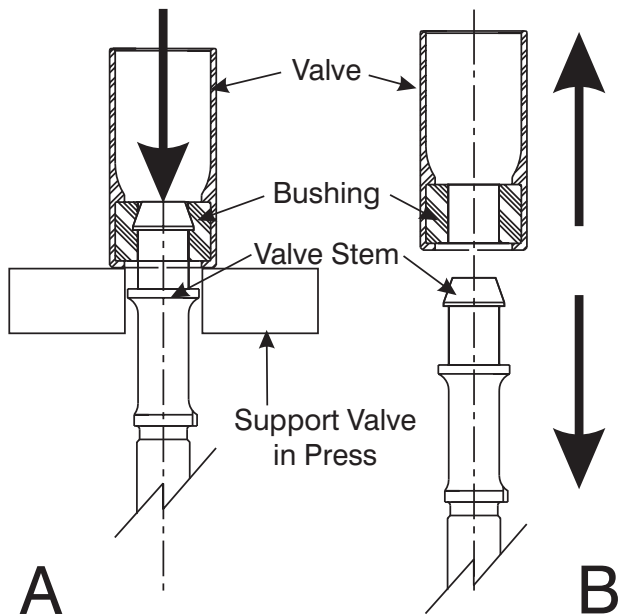

Figure 8-18. Press Valve Stem from Bushing.
3. If the press plunger or pusher bar extension is too wide to pass through the bushing, press the Valve Stem (4) until it is level with the Bushing (5) as shown in Figure 8-18-A.
4. Once unseated from the Bushing (5), the Valve Stem (4) can be pulled from the Bushing, as shown in Figure 8-18-B.
5. Pull the Valve Stem (4) from the Valve Bushing (5), as shown in Figure 8-18-B.